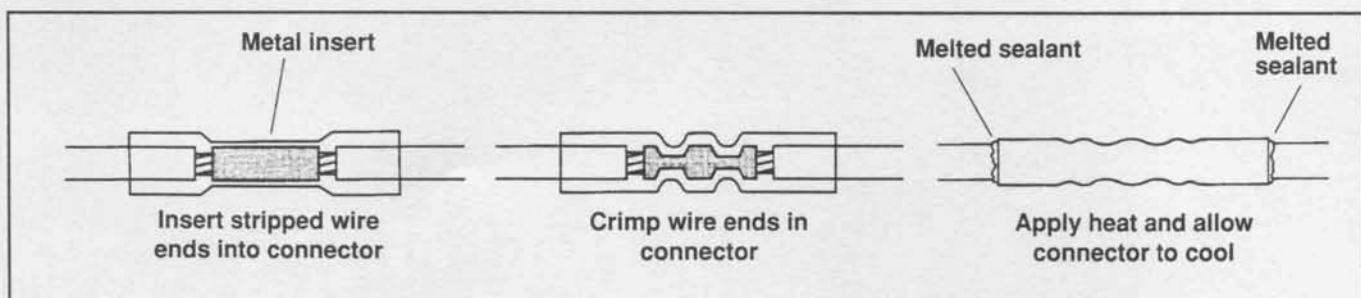

Figure A-15. Installing Sealed Butt Connectors
6. See Figure A-15. Feed the wire into the butt splice connector until the stripped end contacts the wire stop inside the metal insert.
9. Using the UltraTorch UT-100 (HD-39969), Robinair Heat Gun (HD-25070) with heatshrink attachment (HD-41183) or other suitable radiant heating device, heat the crimped splice to encapsulate the butt splice connection. Apply heat from the center of the crimp out to each end until the meltable sealant exudes out both ends of the connector. See Figure A-15.